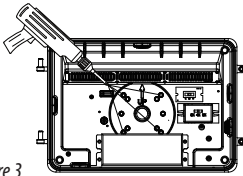

Figure 3
4. Drill mounting holes with an electric drill to match electrical box configuration. If optional sensor is to be installed, refer to 1-pin sensor socket installation guide for instructions. (Figure 3)